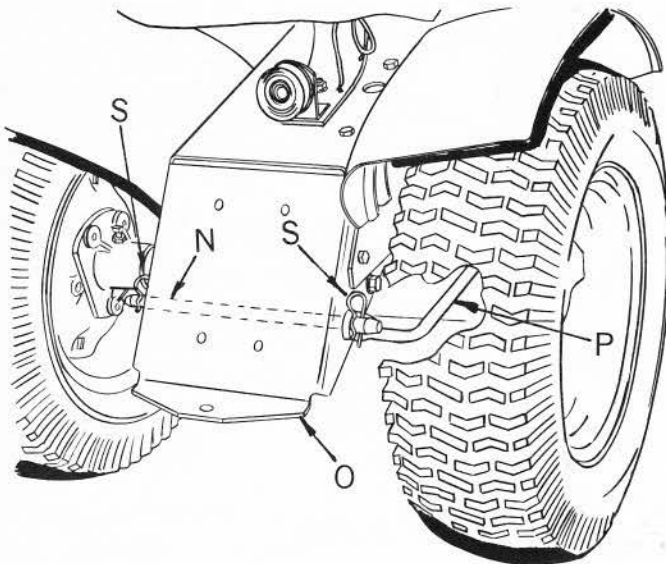

FIG. 4
10. Refer to Figure 4. Slip lower link pin (N), through holes in sides of tractor drawbar (O) as shown. NOTE: Insert and spread  $3/16 \times 1$  cotter pins in lower link pin (N) under and between sides of drawbar (O).
11. Refer to Figure 4. Slip rear of each push rod (P) over ends of lower links pin (N) as shown and secure with retainer springs (S), found in plastic bag.